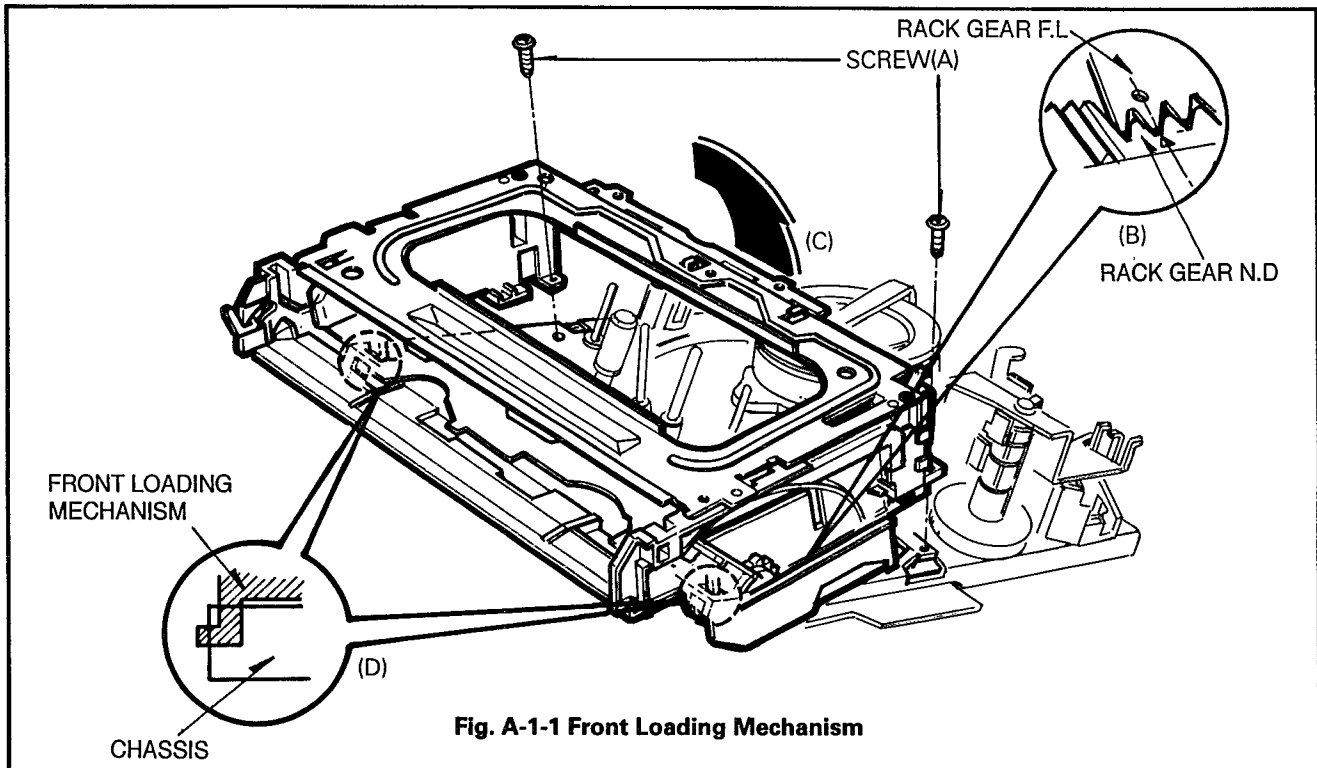
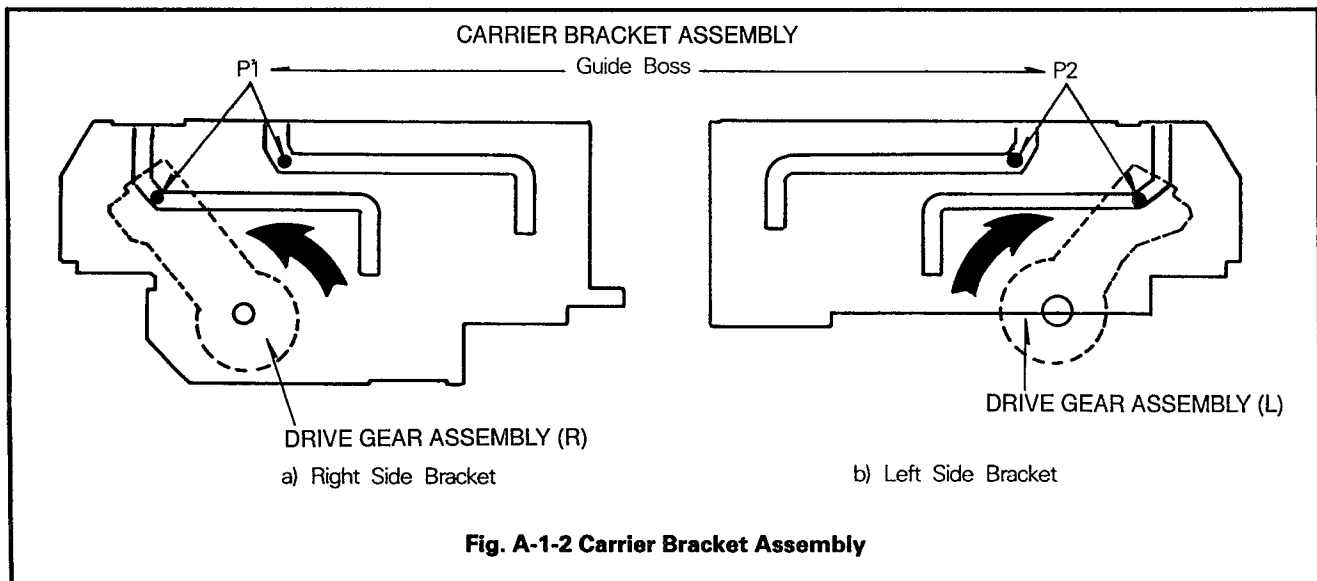

Fig. A-1-1 Front Loading Mechanism
Fig. A-1-2 Carrier Bracket Assembly
## 1. Front Loading Mechanism Assembly (Fig. A-1-1)
- ① Give special attention to removal and to reassemble, because two tabs(D) are engaged.
- ② Make sure that Bosses of Bracket(L),(R) are properly engaged in the holes of the chassis.
- ③ To reassemble Front Loading Mechanism, the Drive Gear Assembly should be turned in a counterclockwise as shown in Fig. A-1-2 so that the Rack Gear N.D of Front Loading Mechanism Assembly is meshed into Rack Gear F.L of Deck Mechanism Assembly correctly as shown in Fig. A-1-1.(B).